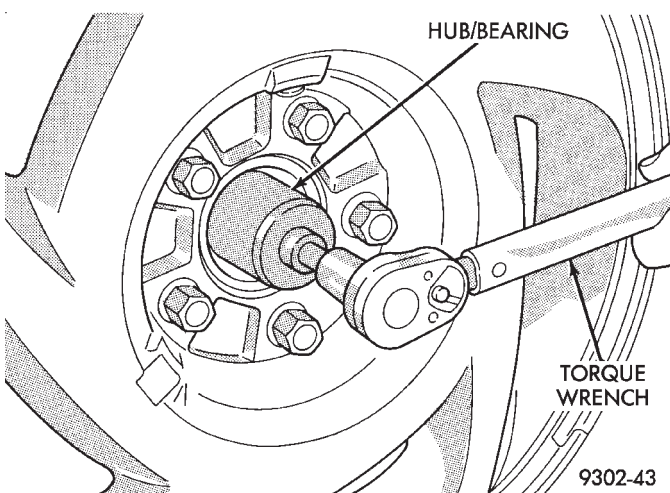

Fig. 62 Torquing Hub And Bearing Retaining Nut
(8) With vehicle brakes applied to keep vehicle from moving, tighten the **NEW** stub shaft to hub and bearing assembly retaining nut to 163 N·m $\pm$ 14 N·m (120 ft. lbs. $\pm$ 10 ft. lbs.) (Fig. 62).